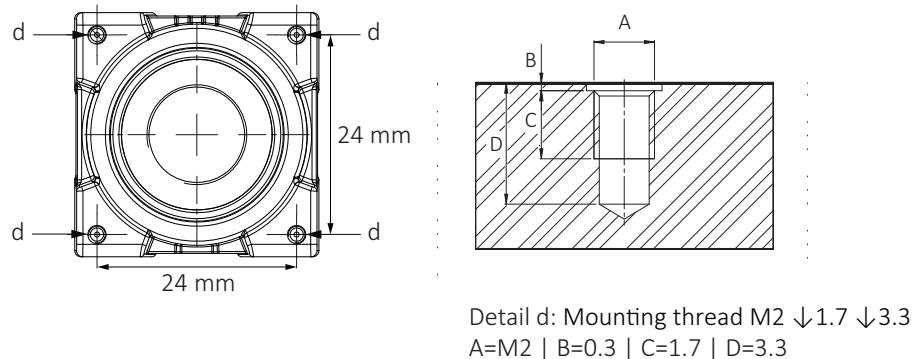

Figure 54: Camera front with mounting threads (d)
1. Mount the camera to the base using suitable M2 screws at 0.17 Nm maximum torque for a thread engagement (C) of 1.7 mm between screws and mounting threads, see Figure 54. For technical drawings, see Dimensions and mass on page 107.